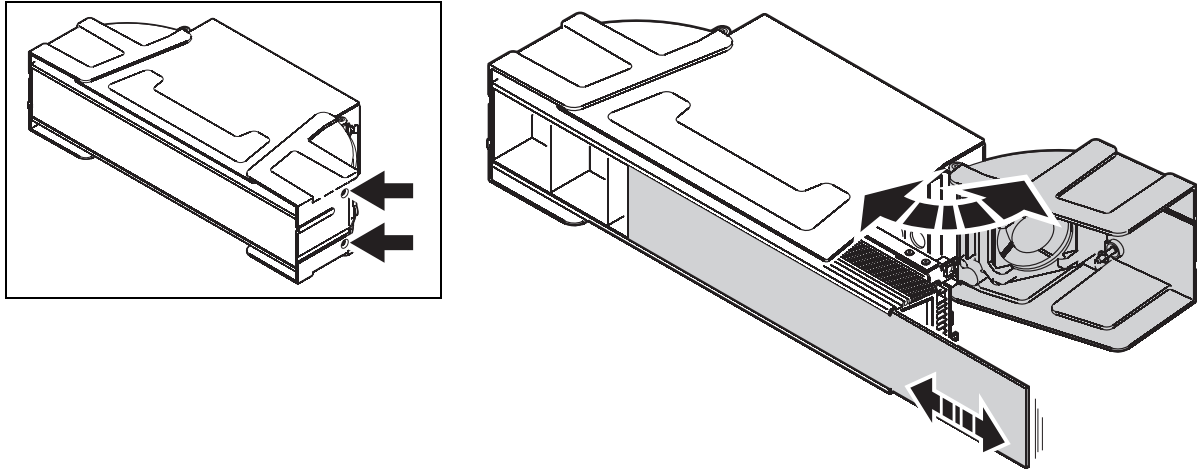

Figure 6: Installing / removing the diffuser front
2. See Figure 6. Loosen the two captive screws (arrowed) on the end cap and swing the end cap open.
2. Remove the blue power input connector from the power inlet. See Figure 6. Loosen the two captive screws (arrowed) on the end cap next to the power inlet and swing the end cap open.
To remove the reflector, open both end caps as shown in Figure 6 on page 16 and lift the reflector out of the fixture.